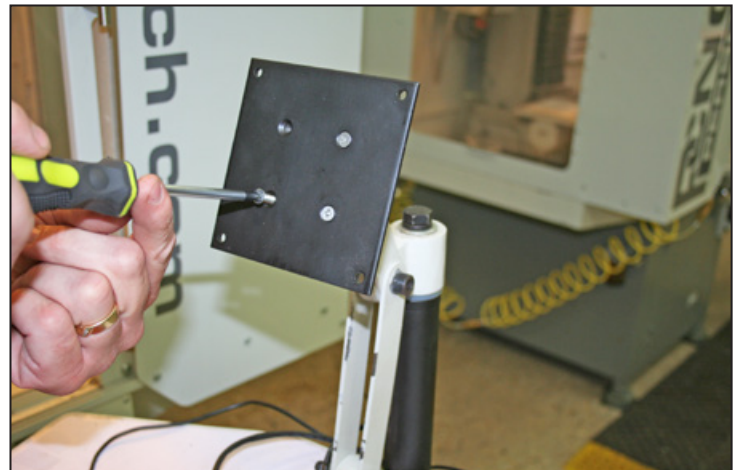

Figure 1
1. Using a Phillips screwdriver, remove four screws on existing monitor mounting plate (see **Figure 1**); set screws aside and discard monitor mounting plate.